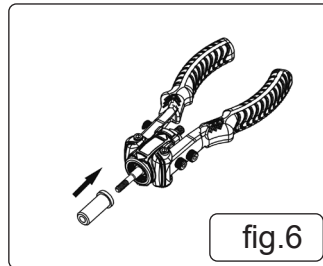

fig.6
- 4.2.2. Insert the nut rivet sleeve (fig.1.3) into the body (fig.6).